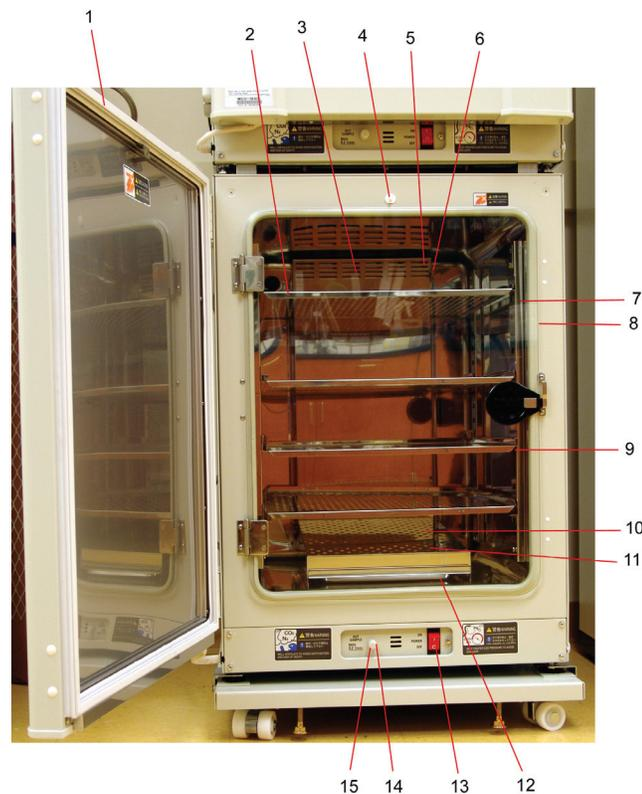

Figure 1: Incubator Components
- 9.1. Figure 1: Incubator Components